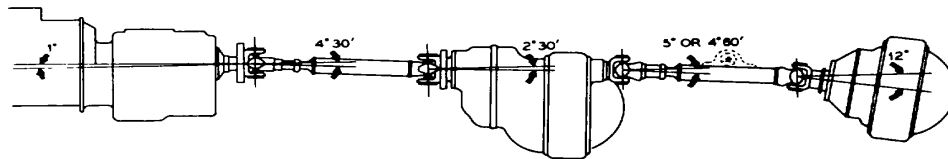

Fig. 45
6. Check and record the angle on the engine and main transmission. This reading can be taken at the rear of the main transmission on the output yoke or flange. Record this reading on a sketch similar to Fig. 44 (Example on Fig. 45, - 1 deg. down).